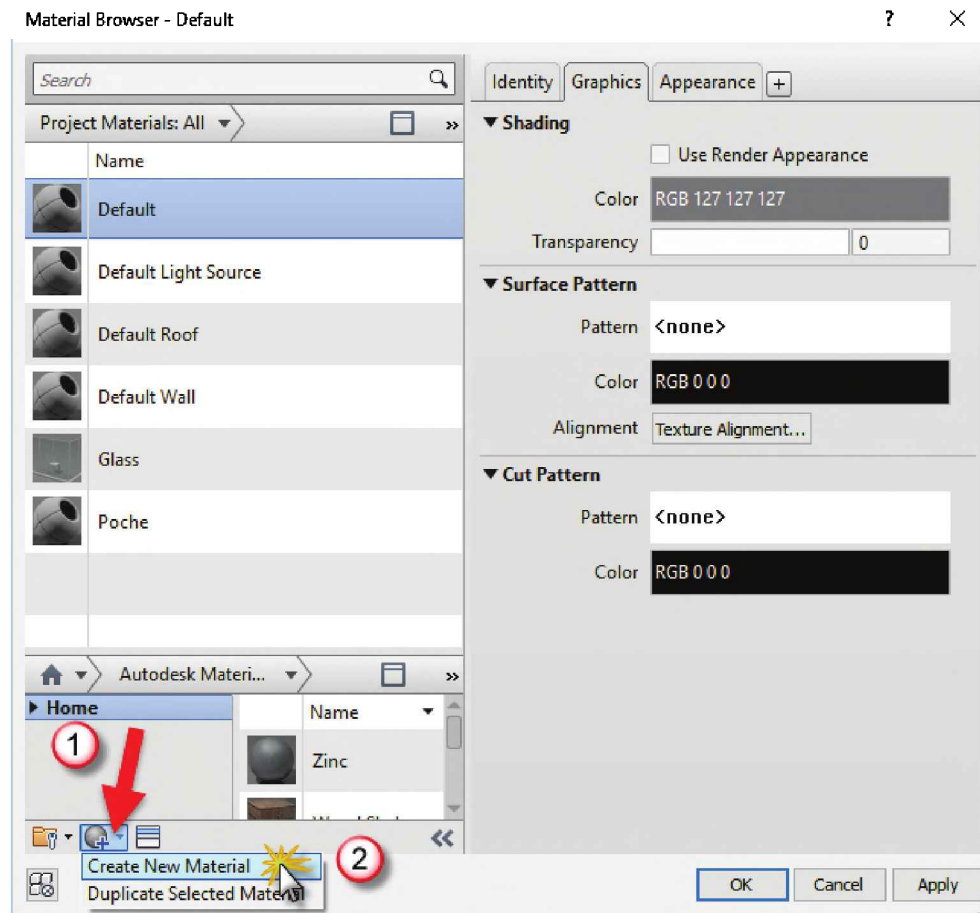

FIGURE 18-4.7 Materials for the Box Family, not the Box Project
Notice the *Family* has a limited number of *Materials* loaded; see Figure 18-4.7. The following sequence of steps will show how to create a new *Material* and define it.
17. Click the **Create New Material** icon in the lower left corner; see arrow in Figure 18-4.7.